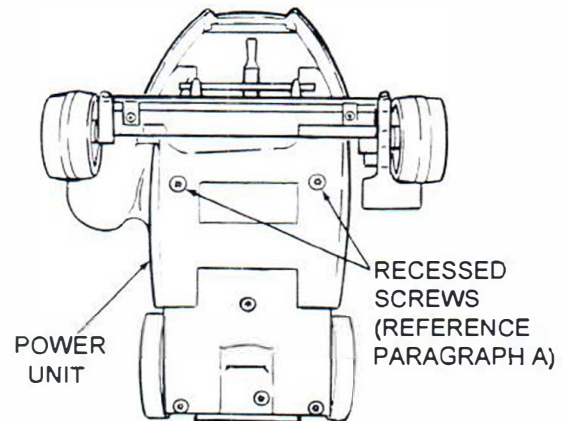

Figure 21. Motor Unit Assembly Removal (Bottom)
- A. *See Figure 21.* Turn the power unit over and remove the two screws from the recessed holes in power unit. (See CAUTION at end of this section).